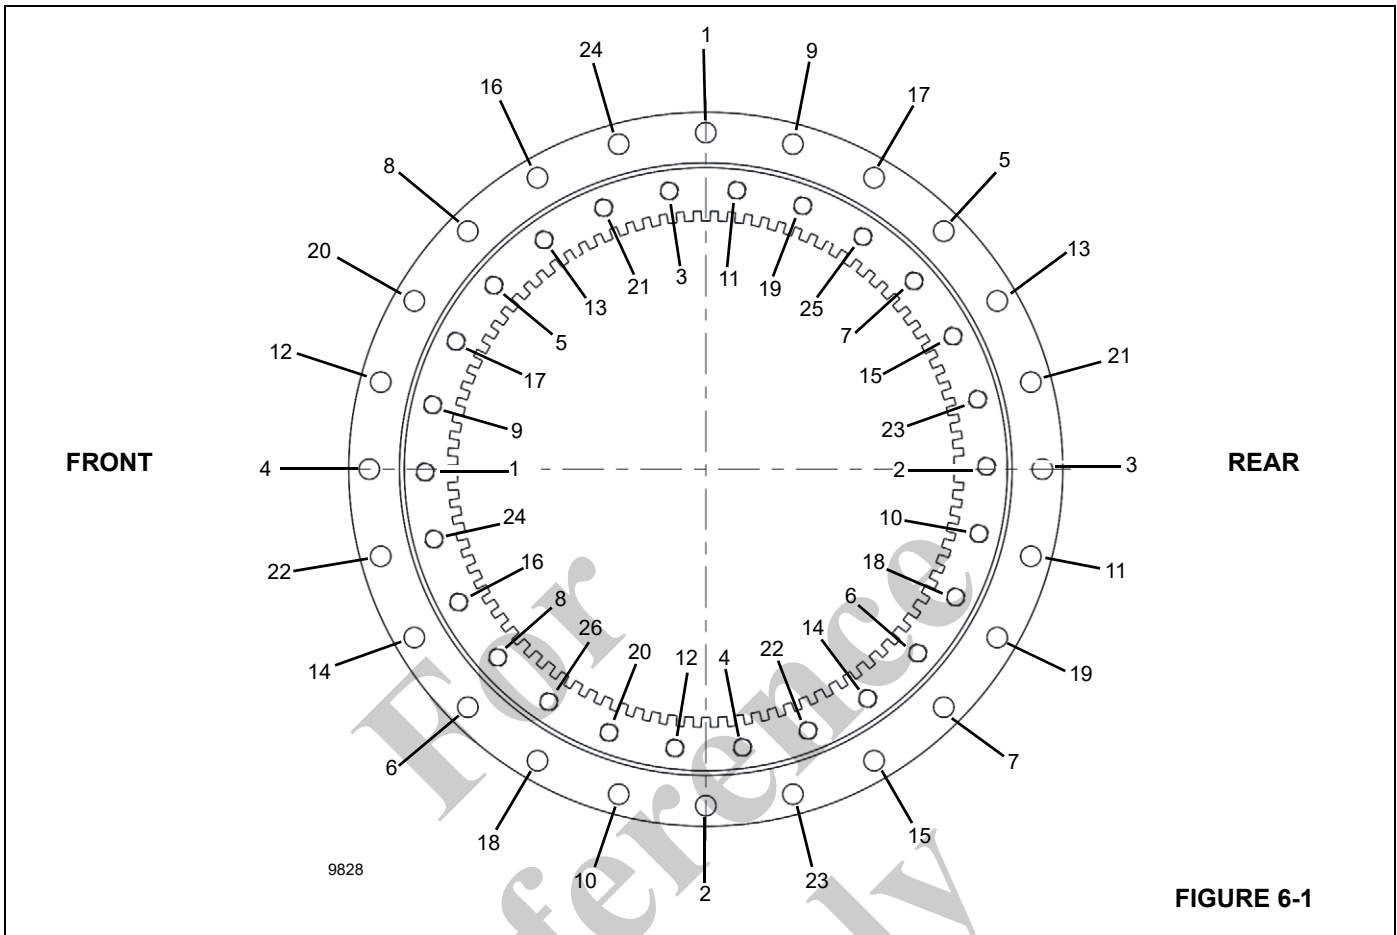

FIGURE 6-1
The inner race of the bearing is secured to the turret by 26 capscrews (Figure 6-1). The outer race of the bearing is secured to the frame by 24 capscrews (Figure 6-1).
3. Torque all bolts to 80% of the specified torque value following a star pattern sequence as shown in Figure 6-1 starting with bolt number 1. Refer to "Fasteners and Torque Values" on page 1-7.
3. Torque all bolts to 80% of the specified torque value following star pattern sequence as shown in Figure 6-1 starting with bolt number 1. Refer to "Fasteners and Torque Values" on page 1-7.